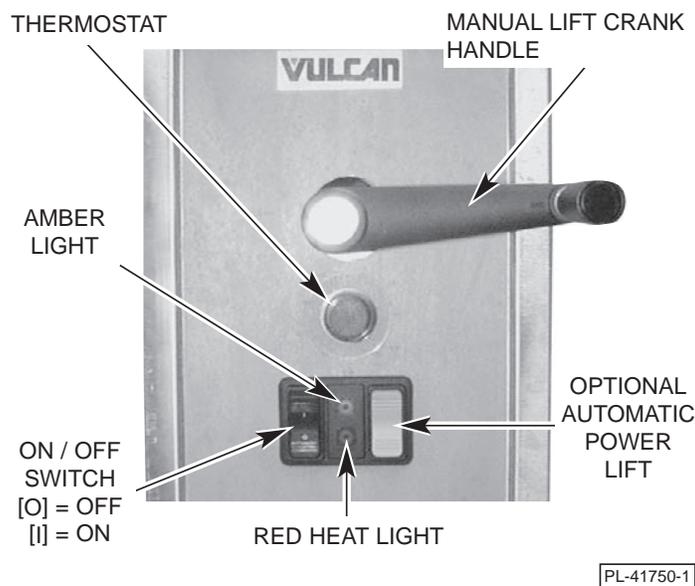

Fig. 3
### Controls (Fig. 3)
### Controls (see Fig. 3)
2. The pan lift is controlled by the gray rocker switch located on the control panel (see Fig. 3).